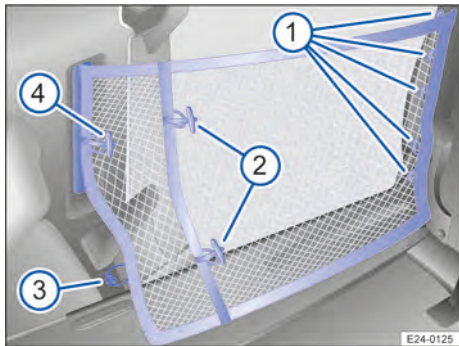

Fig. 157 Restraint net attached with partition set up.
When using in the seat position: unfold only up to the first toggle fasteners → Fig. 157 ②.
3. When using with the partition set up: attach the retaining rings in the holders on the seat frame → Fig. 157 ①.
4. Attach the rear lower part of the load restraint net in the holder on the side panel → Fig. 157 ③.